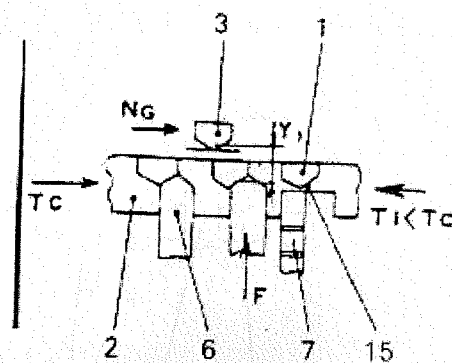
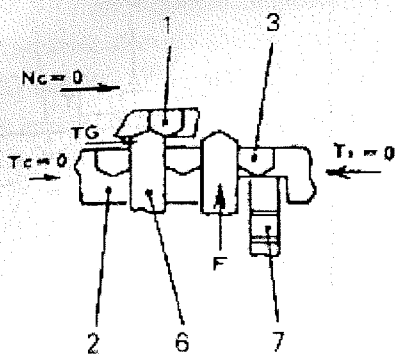
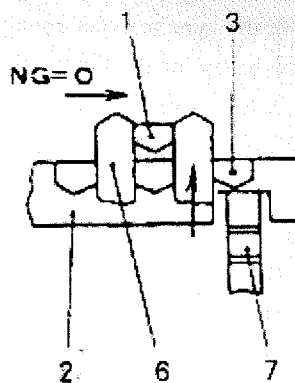

Fig 2-7
Fig 2-9
Fig 2-10
Step 4 (Refer to Fig 2-7)
Step 6: (Refer to Fig 2-9 and Fig 2-10)
After passing through the synchronous ring, the engagement sleeve has moved a Y distance as indicated in Fig 2-7, for the chamber part of the spline 6 of engagement sleeve to begin getting into contact with the chamber part of spline gear 3 of gear 11 (Refer to Fig 2-9.). The contact of this chamfer adds a torque T on gear 3 through spline of engagement sleeve, for the gear 11 to turn an angle along the circumferential direction relative to engagement sleeve, this to have the spline of engagement sleeve pass between the spline gear 3, and the whole synchronization process is then completed. The power is transmitted through the clutch driven disc hub on main shaft, the engagement sleeve and the gear 11 (namely the speed or direction gear), thus to achieve the gear-shift process.